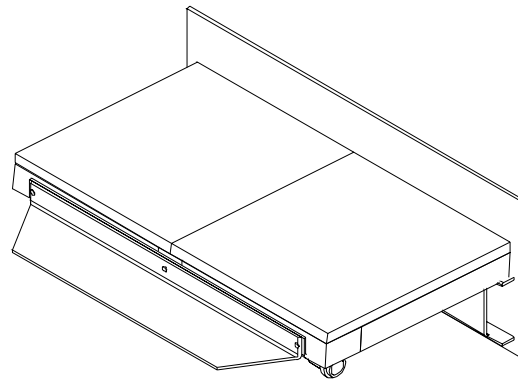

Figure 3.2f
6. Unstack the fibre baffle boards by sliding the top board over to one side. Make sure that the baffle is tightly in place by pushing the baffle support to the rear of the stove. Check that baffle boards are located as in fig. 3.2f.